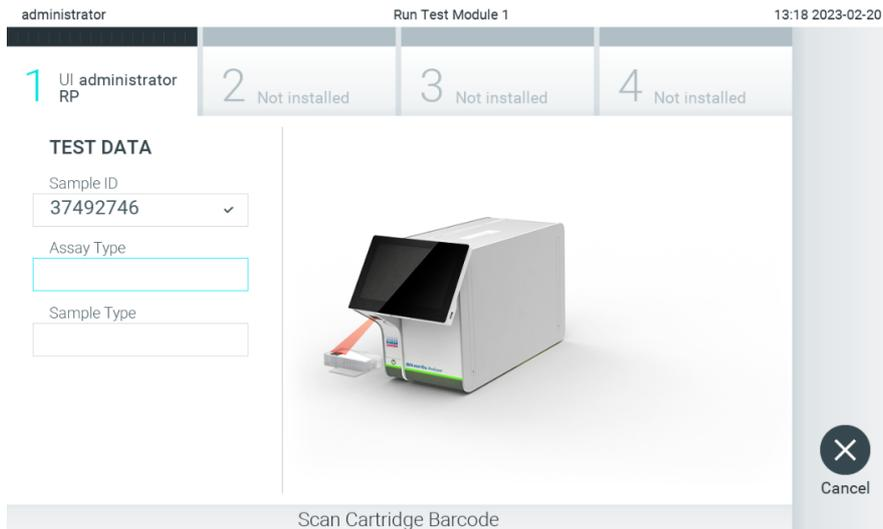

Figure 87. Scanning the QIAstat-Dx assay cartridge bar code.
- When the test order has been successfully received from the host, “Scan cartridge for assay <assay\_name> and book order <order\_number>” is displayed. Scan the bar code of the specified QIAstat-Dx assay cartridge (Figure 87).